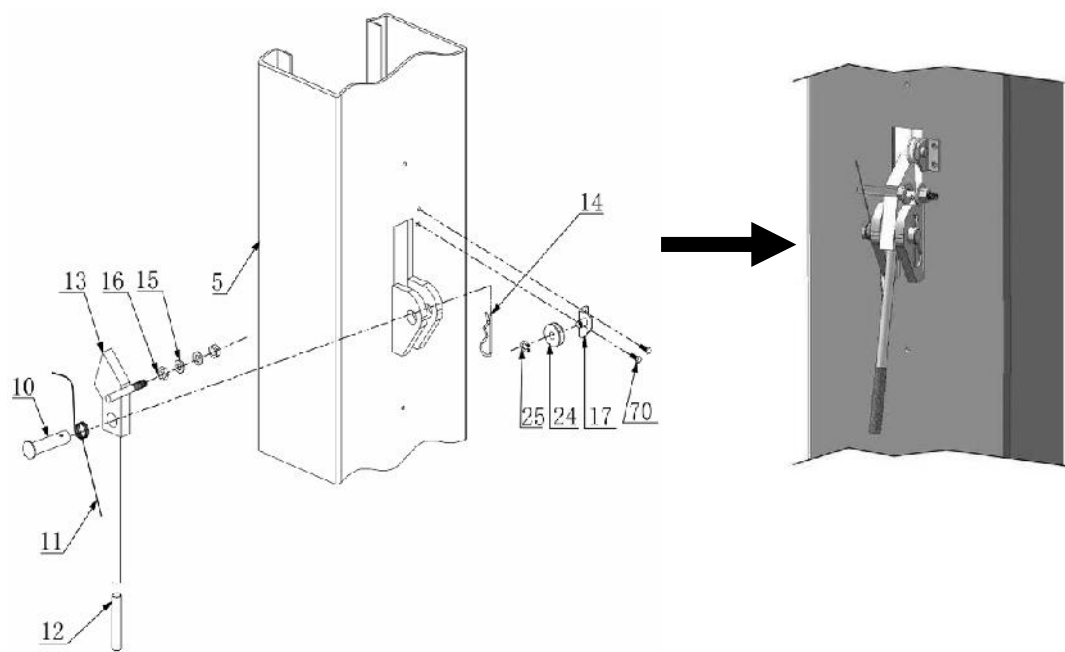
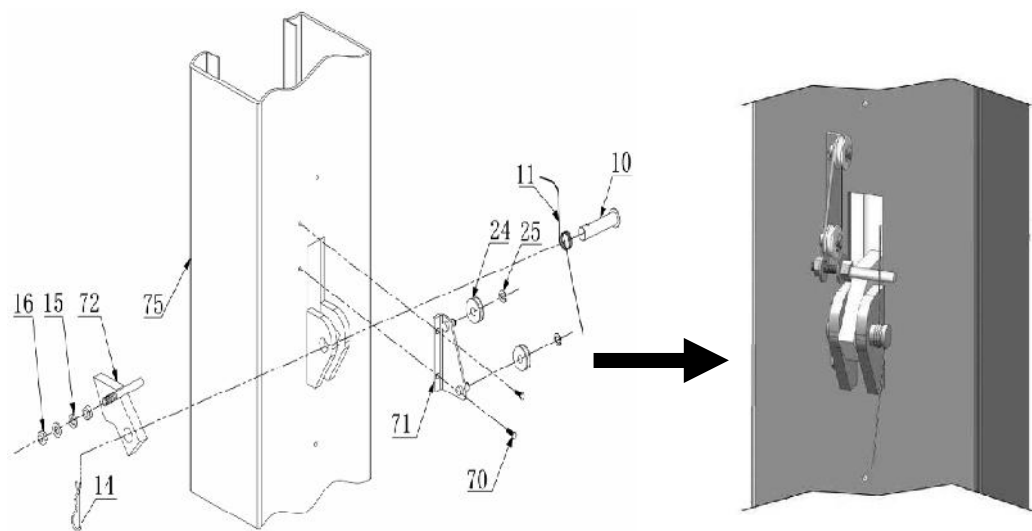

Fig. 19 Power side Safety Device
Fig. 20 Offside Safety Device
I. Install Safety Device (See Fig. 19 & Fig. 20).